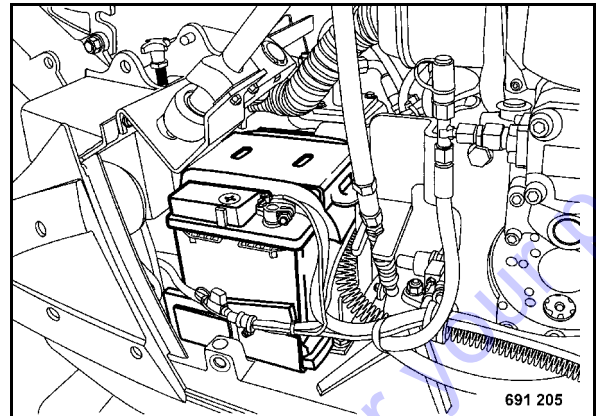

Fig. 54
- Unscrew the battery holder (Fig. 54).